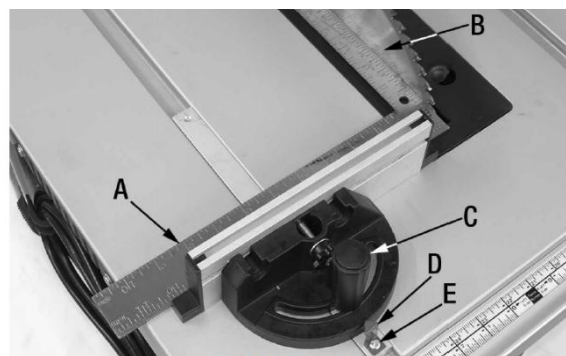

FIGURE 13
4. Ensure the mitre gauge is square against the saw blade. Place a square (A) **Fig.13** against the blade (B), loosen lock handle (C) and place the mitre gauge against the square.